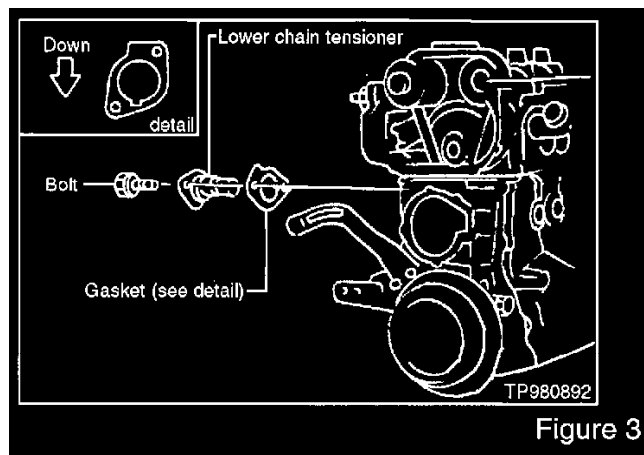

Figure 3
10. Install the lower chain tensioner (See Figure 3).